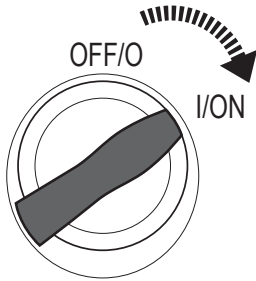

Fig. 35
- > Turn the on/off switch (7) clockwise to its on position **"I/ON"** to switch the product on (Fig. 35).